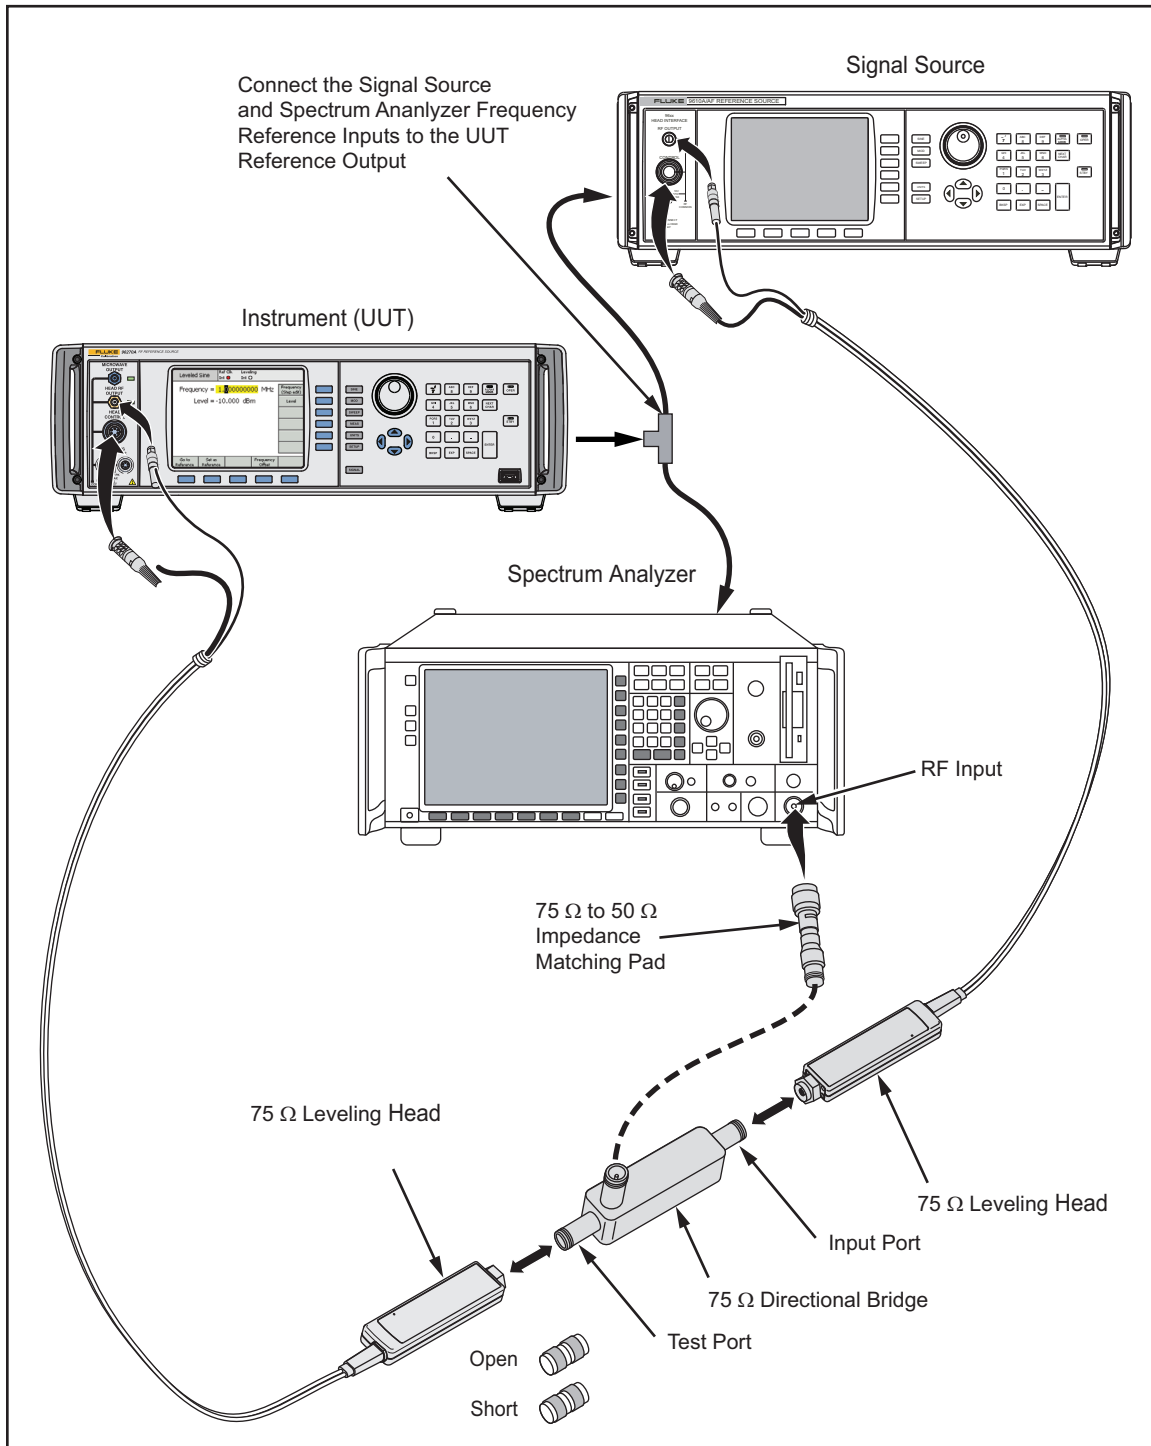

Figure 3-14. Equipment Connections - 75 Ω Levelling Head VSWR Test (96040A and 96270A) hpn227.eps
3. Connect the signal generator RF output to the input port of the directional bridge. Connect the directional bridge coupled (output) port to the Spectrum Analyzer input using a 75 Ω to 50 Ω impedance-matching pad. See Figure 3-14.